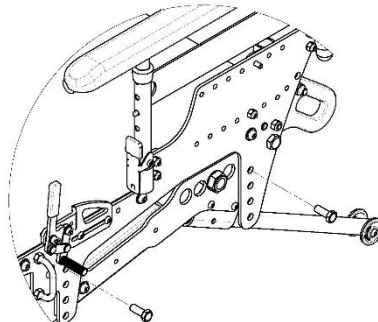

Figure 12.26: Seat Height Adjustment - Fastener installation
1. Remove the bolts and nuts joining the upper and lower frame as shown in Figure 12.26 using two 9/16" wrenches or sockets.